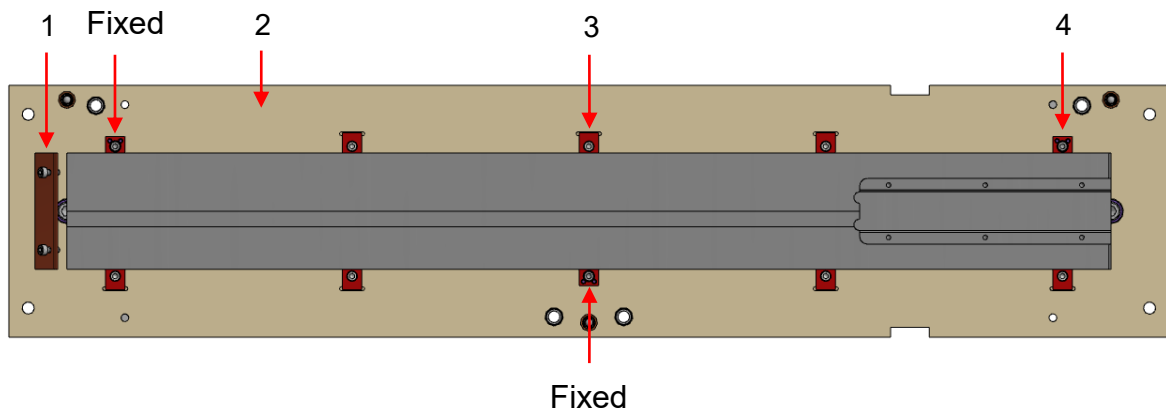

Figure 86: M7 mirror holder assembly
- A. Loose all ten screws and carefully remove the corresponding clamps (#3, 4 in Figure 86). Be aware of the seven springs at the spring loaded clamps.
- Carefully fix the holding clamps in the side grooves of the mirror substrate and fasten the corresponding screws. Do not forget to use the corresponding springs at the spring loaded clamps, see Figure 86.